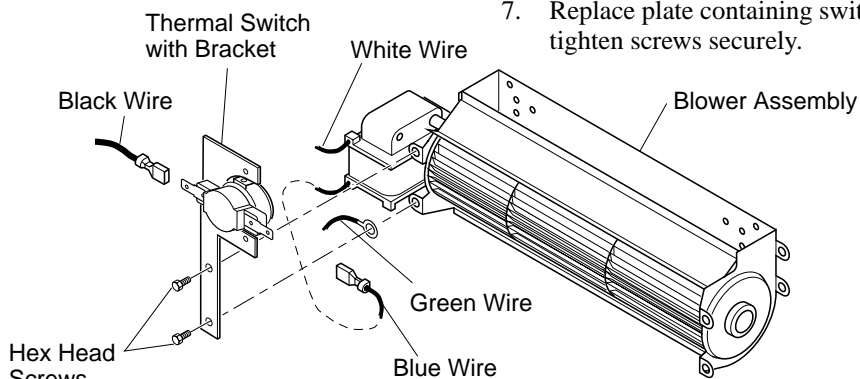

Figure 29 - Attaching Thermal Switch to DA3610T Thermostatically Controlled Blower Accessory
1. Remove the two hex head screws on the blower assembly as shown in Figure 29.